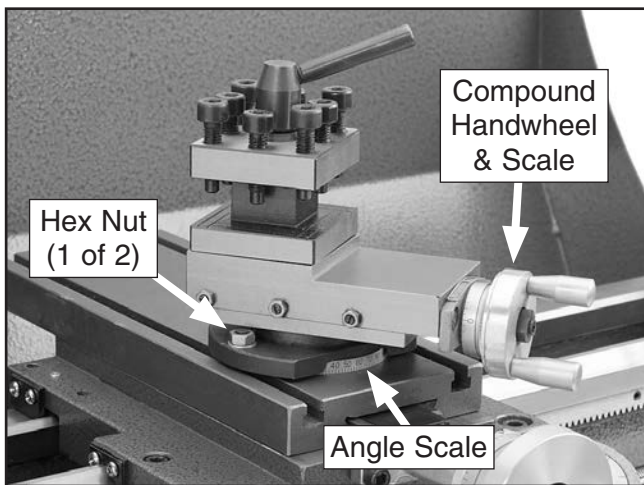

Figure 38. Compound slide controls.
1. Loosen the hex nuts on either side of the compound slide (see **Figure 38**).